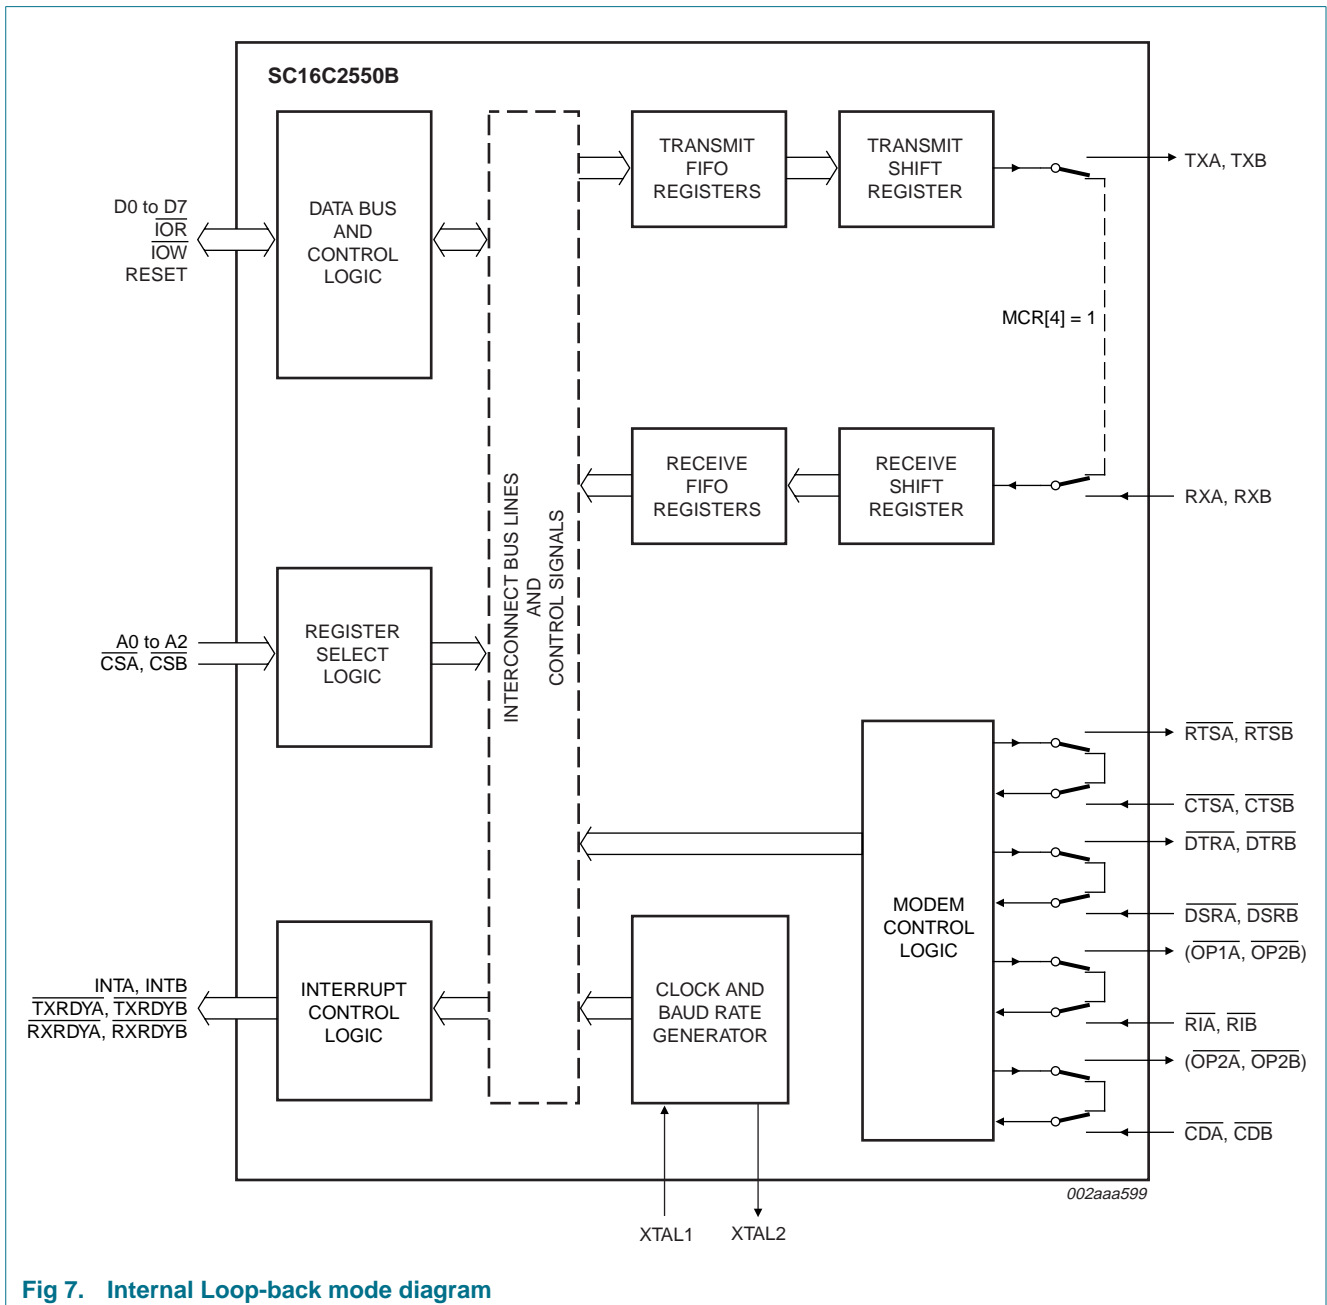

Fig 7. Internal Loop-back mode diagram
The internal loop-back capability allows on-board diagnostics. In the Loop-back mode, the normal modem interface pins are disconnected and reconfigured for loop-back internally (see Figure 7). MCR[0:3] register bits are used for controlling loop-back diagnostic testing. In the Loop-back mode, the transmitter output (TX) and the receiver input (RX) are disconnected from their associated interface pins and instead are connected together internally. The $\overline{\text{CTS}}$, $\overline{\text{DSR}}$, $\overline{\text{CD}}$ and $\overline{\text{RI}}$ are disconnected from their normal modem control inputs pins and instead are connected internally to $\overline{\text{RTS}}$, $\overline{\text{DTR}}$, MCR[3] ($\overline{\text{OP2}}$) and MCR[2] ($\overline{\text{OP1}}$). Loop-back test data is entered into the transmit holding register via the user data bus interface, D0 through D7. The transmit UART serializes the data and passes the serial data to the receive UART via the internal loop-back connection. The receive UART